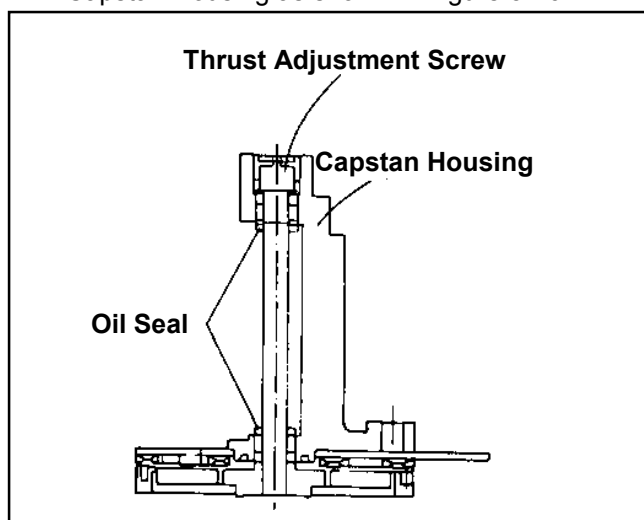

Figure 5-16-1
7. Confirm that the Oil Seal does not leak on the Capstan Housing as shown in Figure 5-16-1.